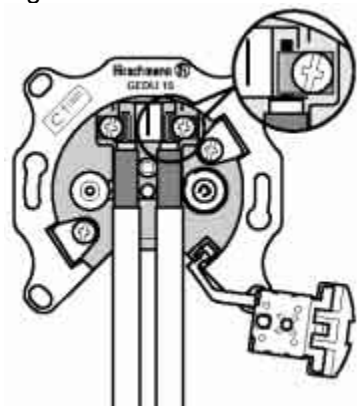

Fig.: 5
5. Fix the centre conductors with the contact screws S (Fig. 5).